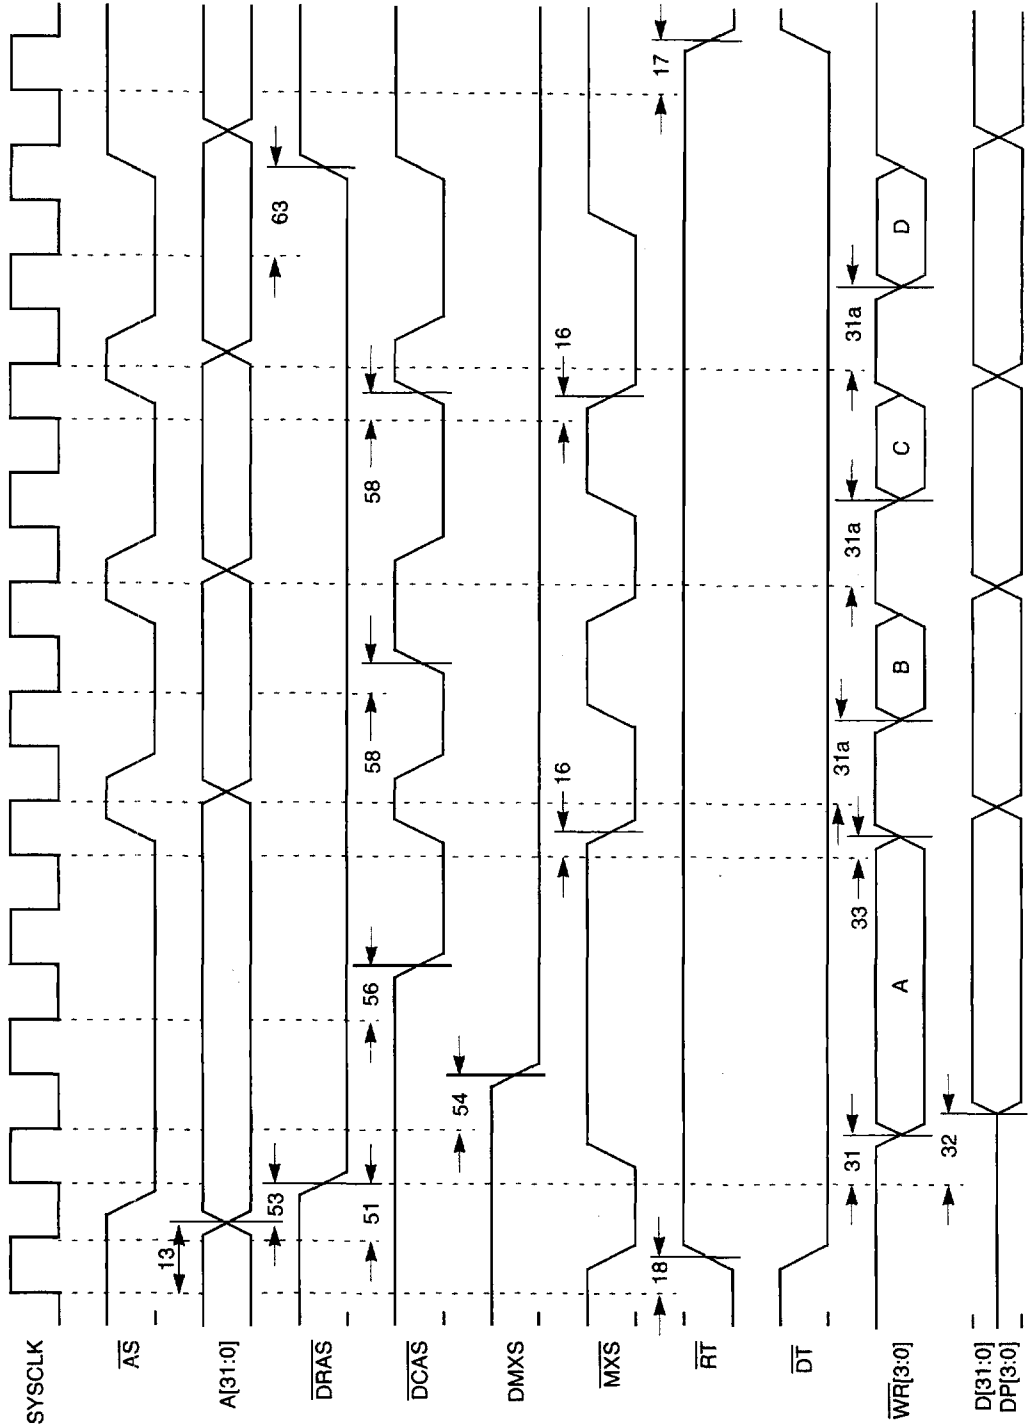

Figure 13
- ◆ DRAM Refresh Timing (Figure 13)